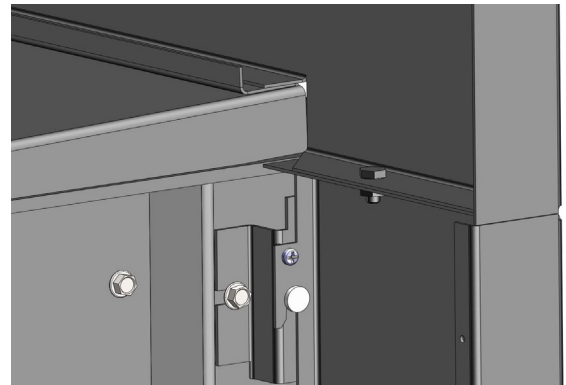

Figure 8. TN20.INS.A.packing screw.
- 1) Remove the shipping screws located at the top of each surround side panel (fig. 8). remove the two screws holding the Fan Controls on the side panel and remove the controls (Fig.8). Lift to remove both panels from the unit.